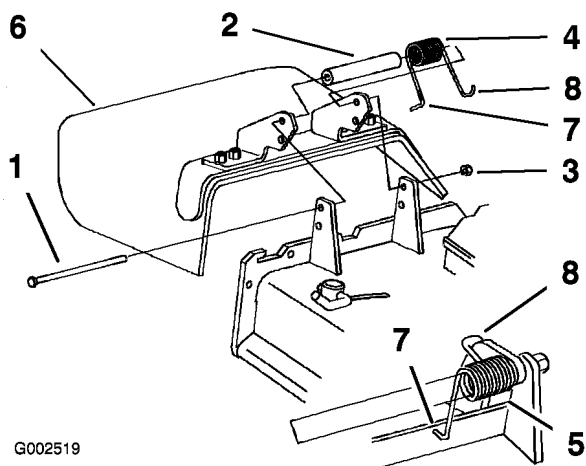

Figure 13
1. Remove the side discharge chute from the mower deck (Figure 13).